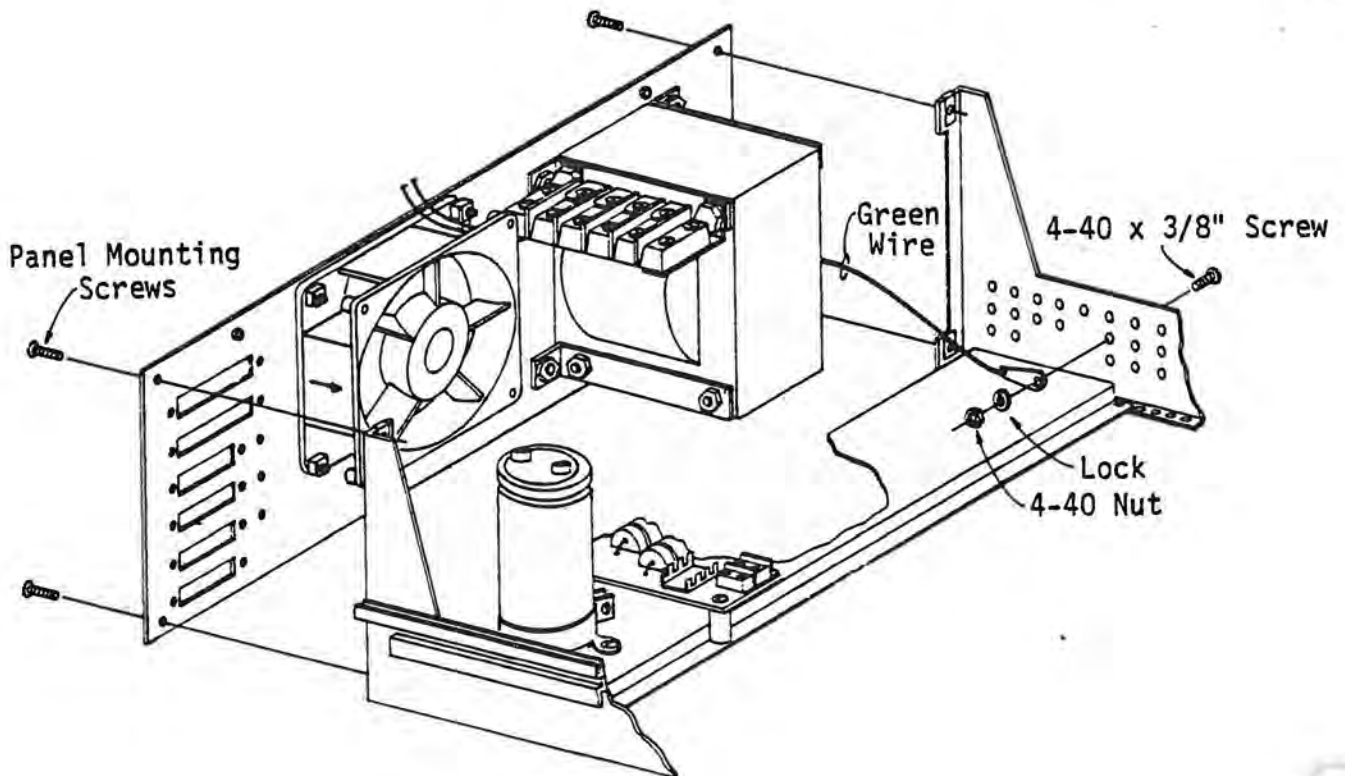

Figure 5-64 Mounting Back Panel to Mainframe
1. Mount the back panel on the mainframe as illustrated in Figure 5-64 using the original mainframe mounting screws.